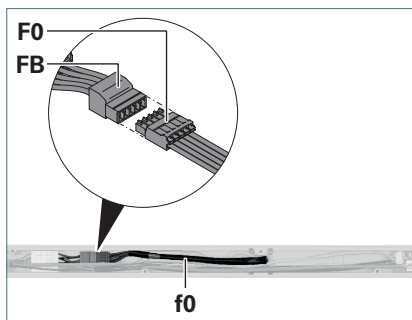

Fig. 10: Connecting the supply cable.
6. Connect the socket strip **F0** to the pin strip **FB** in the crossbar, see Fig. 10.